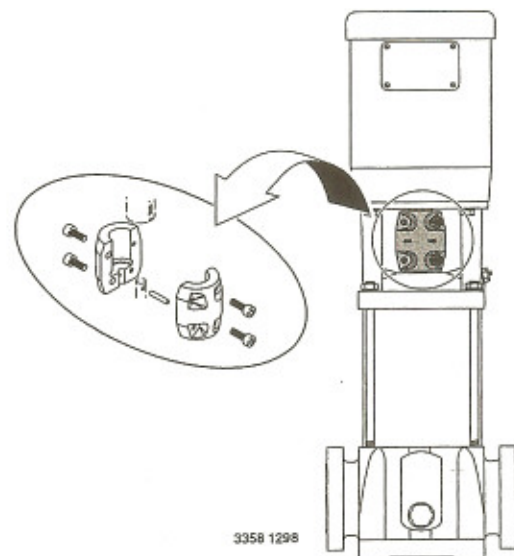

FIGURE 12 - Remove the Socket Head Screws and the Coupling Halves
4. Remove the socket head screws (Key No. 3) and the coupling halves (Key No. 2) from the shaft (Key No. 16A). For additional reference, see Figure 12, Page 9.